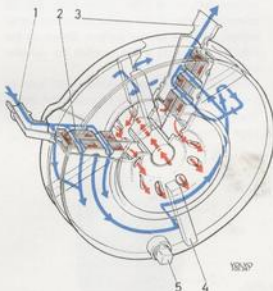

Fig. 2-59. Oil cooler
The oil cooler (Fig. 2-59) is fitted between the oil filter and the cylinder block and consists of an inner section for the oil which is surrounded by a cooling jacket. The engine coolant is led through the cooling jacket. On its way to the oil filter, the oil passes through the cooler and some of the heat in the oil is conducted away by the coolant. The coolant cannot take the shortest path from the inlet (1) to the outlet (3), but is forced by rubber seals (4) to take a zig-zag course and round the cooler, as indicated in Fig. 2-59 by the blue arrows. The discs (2) are cooled by the coolant and are divided by a plate into two compartments, which are linked at the disc periphery. Oil enters the first compartment, nearest the engine block (see red arrows), and is forced the length of the discs (2) into the other compartment and then along its discs, and thereafter into the oil filter.